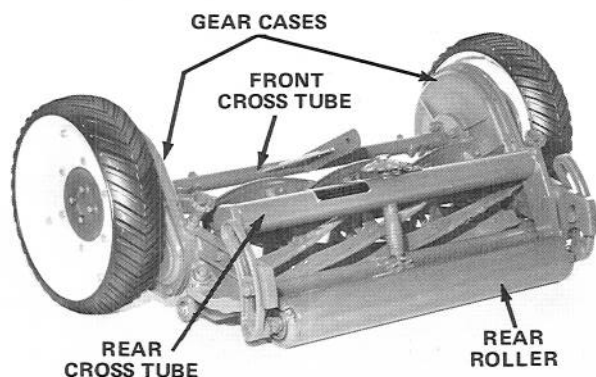

Figure 4
2. Stand behind the mower and check rear roller. Roller must be level with the flat surface (Fig. 4). If roller is level with flat surface, reel bearings should be checked: refer to Check Reel Bearings and Mower Fasteners, page 5. By contrast, use the instructions below if rear roller is not level with flat surface.
3. Loosen six nuts holding front cross tube to both gear cases (Fig. 4). Also loosen six cap screws holding rear cross tube to end of both gear cases (Fig. 4).
4. Press down simultaneously on both gear cases (Fig. 4) until a definite set is taken and roller touches — is level with — flat surface.